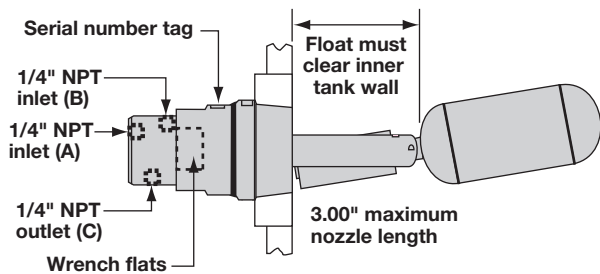

Figure 1
1. Ensure that the length and inside diameter of the mounting nozzle are sized correctly to allow for switch actuation at design levels. Refer to Figure 1.
3. Using a pipe wrench, rotate the unit clockwise until threads are tight in mounting. Ensure that the serial number plate is on top. See Figure 1.
2. Connect the inlet air line to the  $\frac{1}{4}$ " NPT connection for either air inlet A or air inlet B, depending on the valve action desired (refer to Figure 3). Inlet air pressure should be between 0–200 psig. Refer to Figure 1 for location of air inlets.
3. Connect outlet air line to the  $\frac{1}{4}$ " NPT connection on the bottom of the valve. This air outlet is designated with a “C”. Refer to Figure 1 for location.
1. Use only the 2" wrench flats to install or remove the unit. Refer to Figure 1. Use of any other surface could change the calibration. The valve body is calibrated at the factory and locked in place.